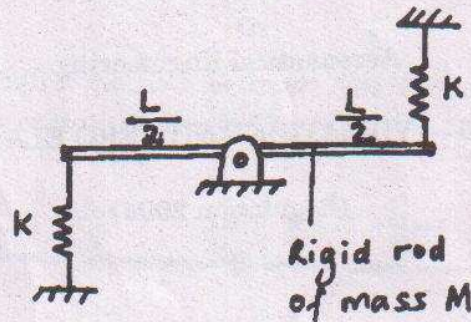

Fig. 1
11. (a) (i) Using the energy method, obtain the equation governing free vibrations for a simple pendulum system. Deduce the natural frequency of the same. (10)
- (ii) Obtain the natural frequency of the system indicated in Fig. 1. (6)